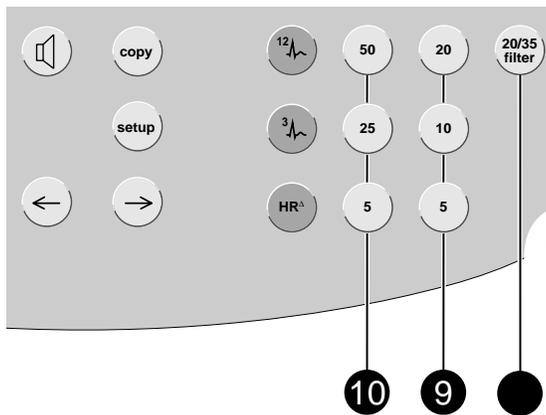

Figure 7-2. Controls and indicators
- a gain of 10 mm/mV - **g**, the setting can be changed any time with the gain keys - **9**, Figure 7-2)
- a paper speed of 25 mm/s - **h**, the paper speed can be changed any time with the speed keys - **10**, Figure 7-2
- the muscle filter (35 Hz) is active - **f**, it can be disabled any time with the muscle filter key - **8**, Figure 7-2